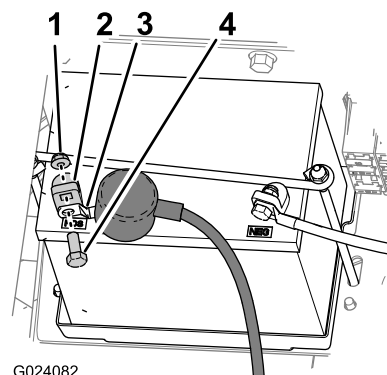

Figure 31
5. Slide back the insulator cover and remove the bolt and nut that secures the terminal of the positive-battery cable to the positive post of the battery. (Figure 31).